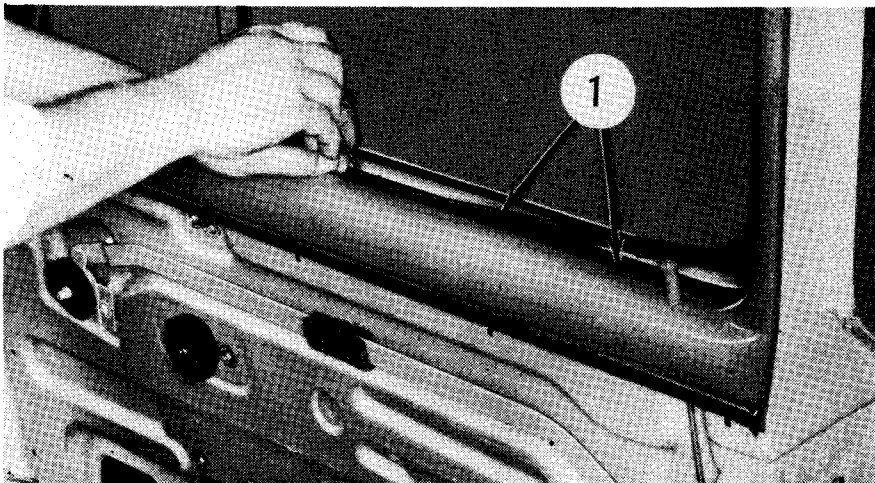

FIG. 18 - 1. DOOR WINDOW WEATHERSEALS
8. Pry the door glass weather-seal fasteners from the door flanges and remove both weatherseals (1, Fig. 18).